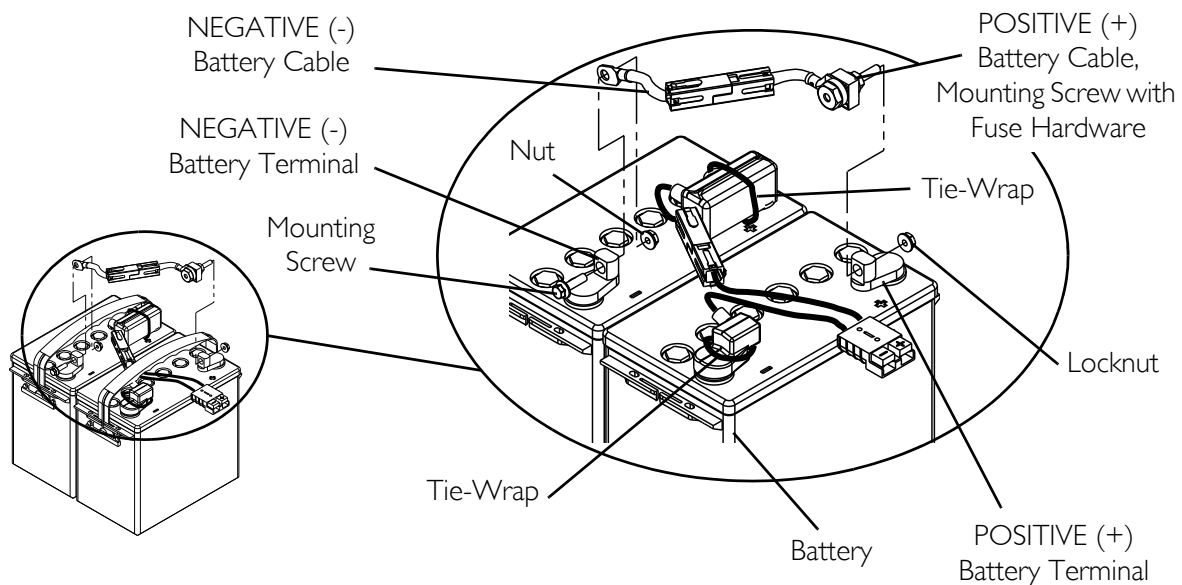

FIGURE 3 - Connecting/Disconnecting the Battery Wiring Harness
When connecting the battery cables to the battery(ies), the battery cable(s) MUST be connected to the battery terminal(s)/post(s) as shown in FIGURE 3 otherwise damage to the battery may result.
NOTE: For this procedure, refer to FIGURE 3.
3. Using the mounting screws and nuts, secure the NEGATIVE (-) BLACK battery cable to NEGATIVE (-) battery terminal/post as shown in FIGURE 3.
4. Using the mounting screws and nuts, secure the POSITIVE (+) RED battery cable to POSITIVE (+) battery terminal/post as shown in FIGURE 3.
8. Using new tie-wraps, secure the terminal covers to the battery terminals as shown in FIGURE 3.
4. Remove the mounting screws and nuts that secure the POSITIVE (+) RED battery cable to the POSITIVE (+) battery terminal/post as shown in FIGURE 3.
5. Remove the mounting screws and nuts that secure the NEGATIVE (-) BLACK battery cable to the NEGATIVE (-) battery terminal/post as shown in FIGURE 3.